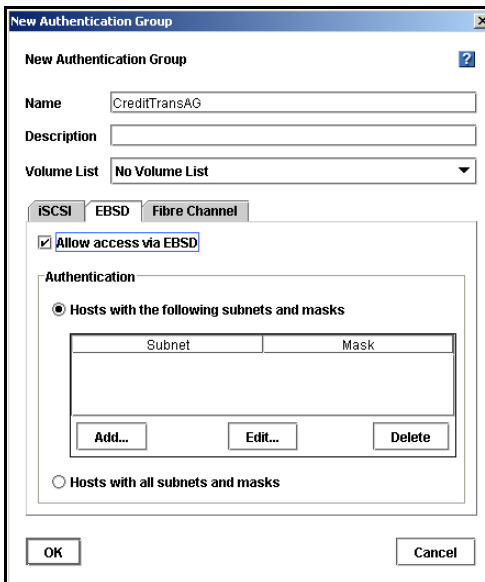

Figure 195. Configuring EBSD for New Authentication Group
1. On the EBSD tab, shown in Figure 195, select the check box to allow access via EBSD.